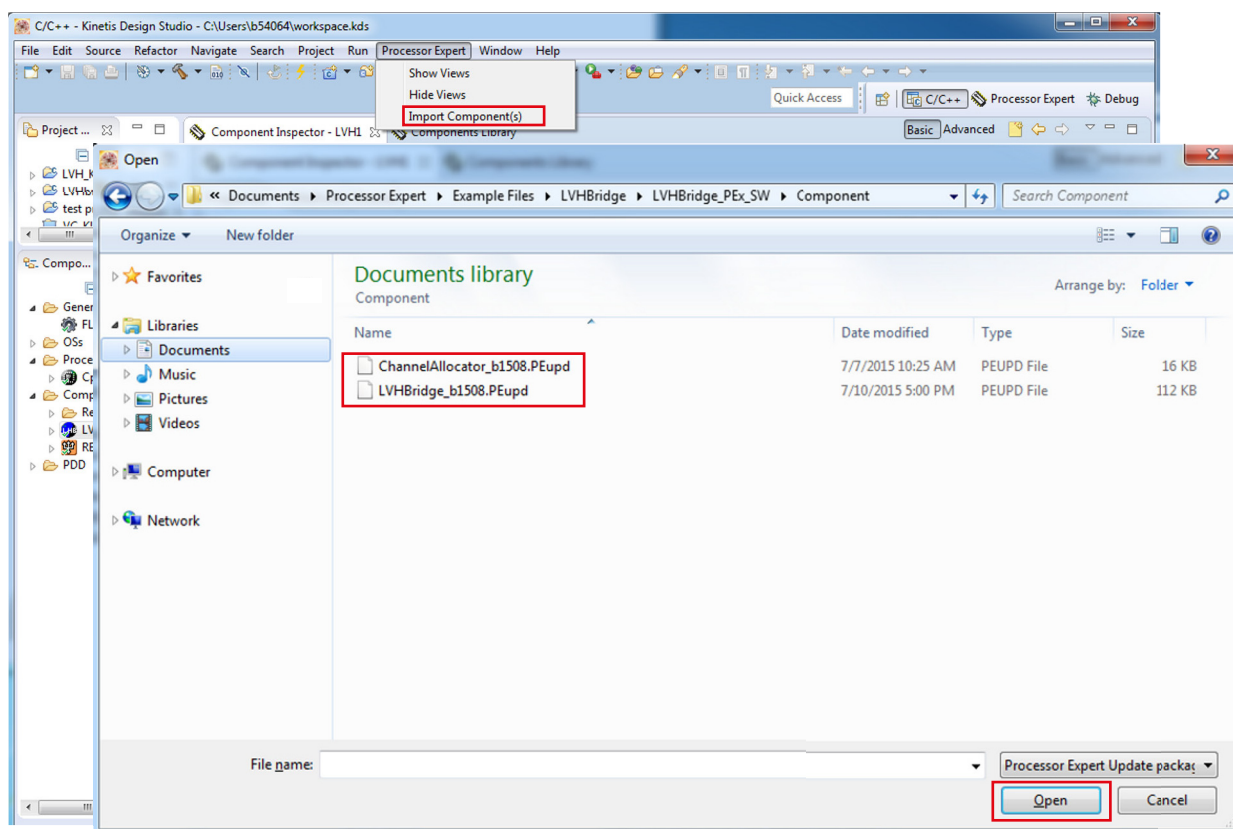

Figure 20. Importing the LVHBridge component
2. In the pop-up window, locate the component file (.PEupd) in the example project folder LVHBridge\_PEx\_SW\Component. Select **LVHBridge\_b1508.PEupd** and **ChannelAllocator\_b1508.PEupd** files then click **Open** (see Figure 20).